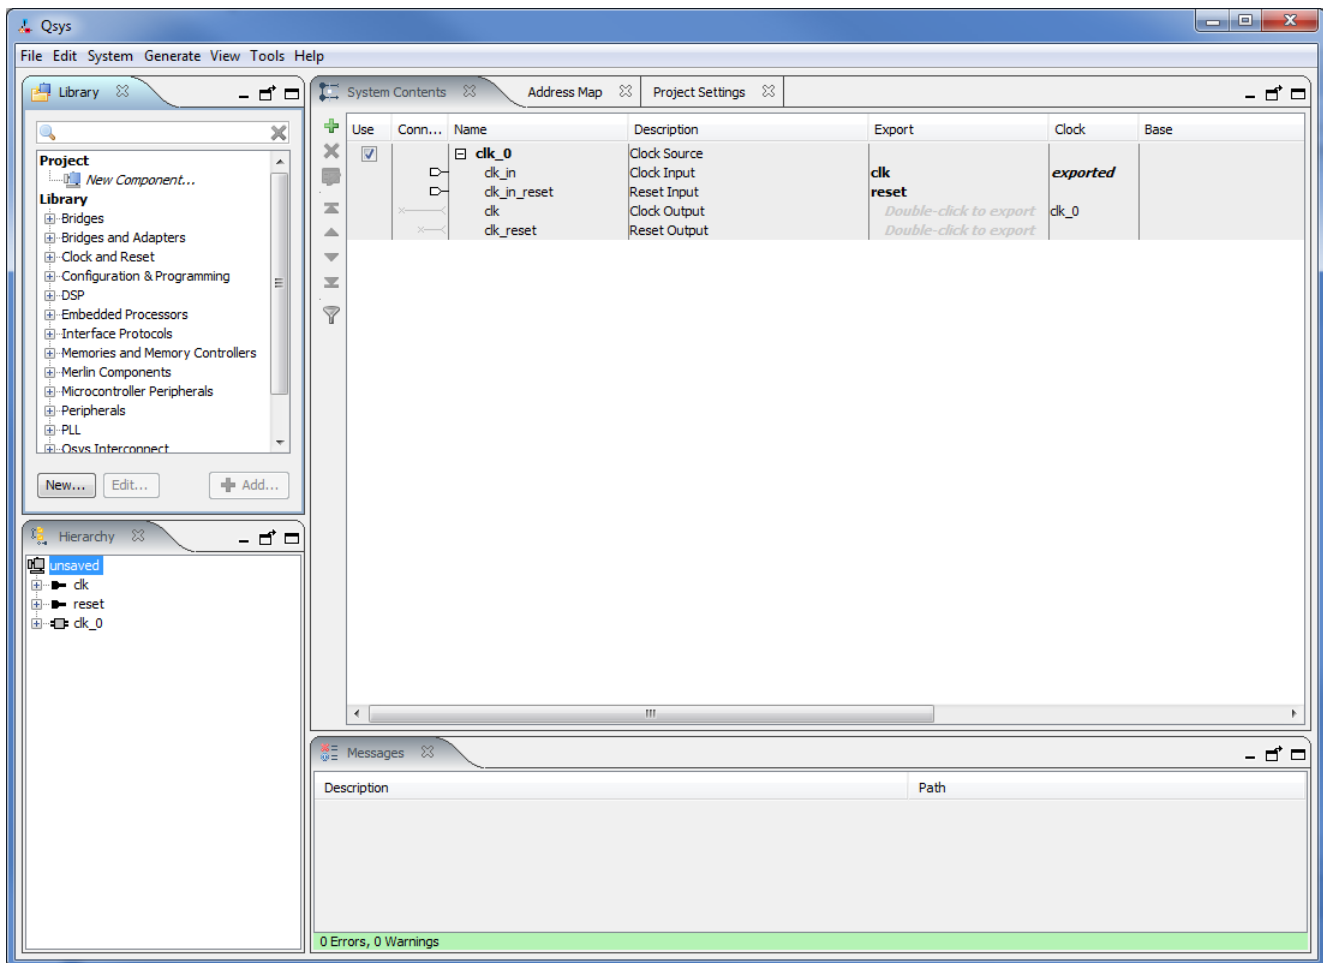
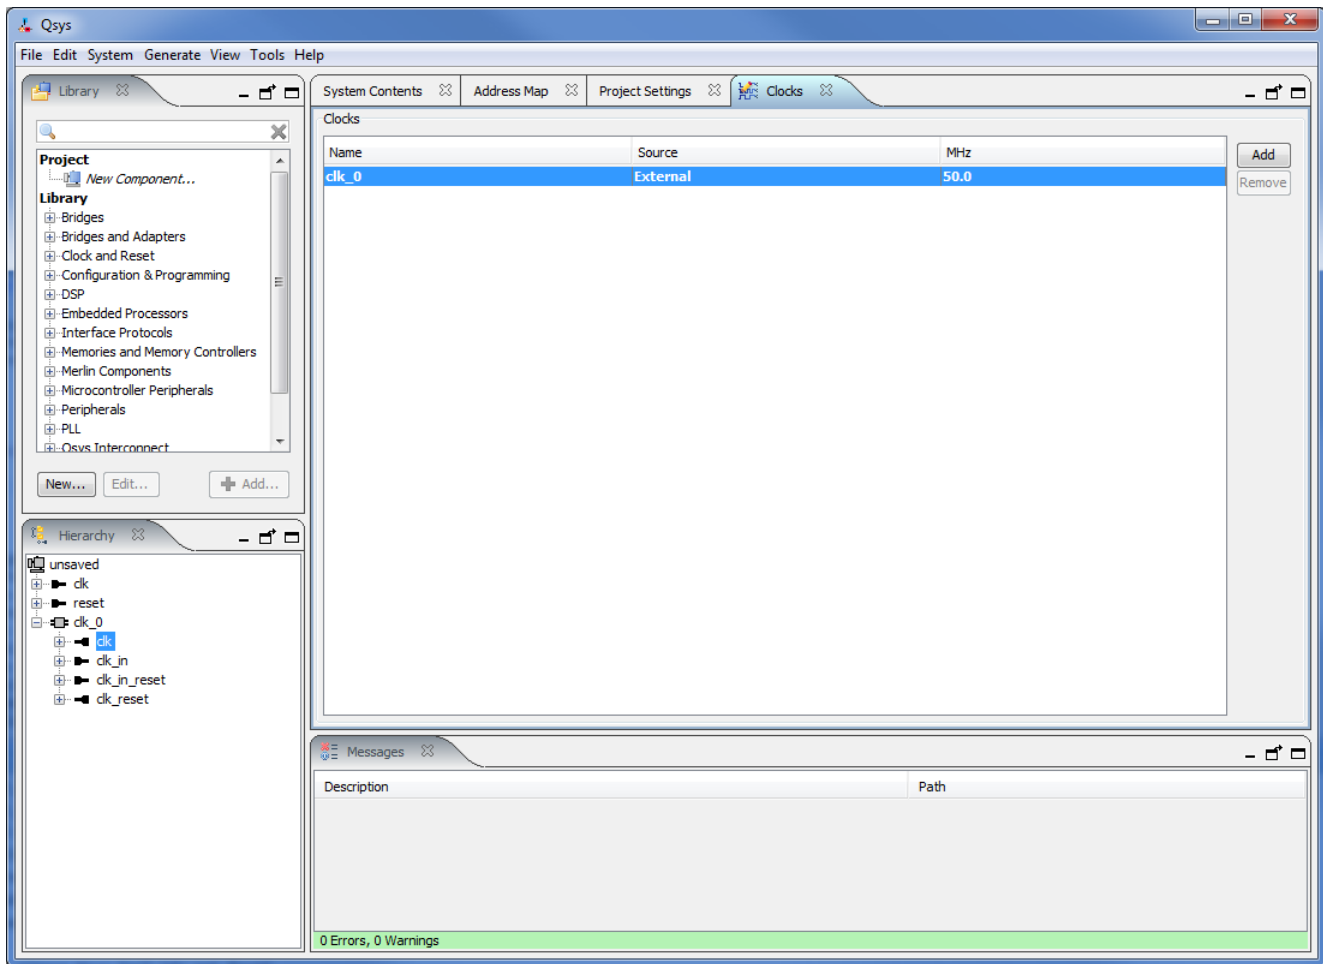

Figure 4. Create a new Nios II system.
Figure 5. The Clock Settings tab.
2. After completing the New Project Wizard to create the project, in the main Quartus II window select **Tools > Qsys**, which leads to the window in Figure 4. This is the System Contents tab of the Qsys tool, which is used to add components to the system and configure the selected components to meet the design requirements. The
- The hardware system that will be generated using the Qsys tool runs under the control of a clock. For this tutorial we will make use of the 50-MHz clock that is provided on the DE2-115 board. In Figure 4 select View > Clocks to bring the Clocks tab to the foreground, as illustrated in Figure 5. Here, it is possible to specify the names and frequency of clock signals used in the project. If not already included in this tab, specify a clock named *clk_0* with the source designated as **External** and the frequency set to 50.0 MHz. The settings are made by clicking in each of the three columns: Name, Source and MHz.